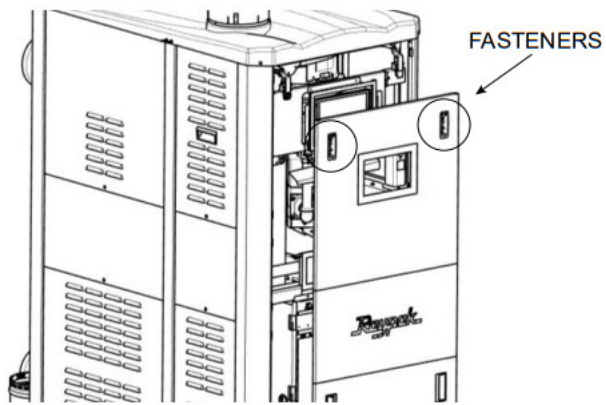

Figure 1. Front Cover Panel Removal
3. Release the two (2) snap fasteners to remove the front cover panel from the unit. Remove the panels and place them aside. (See Figure 1.)